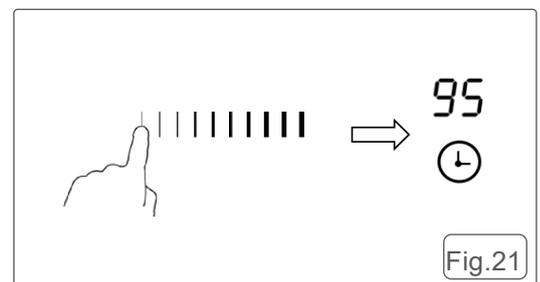

Fig.21
6. When the time is set, the timer will begin to count down immediately, and the display will show the remaining time. Fig.21